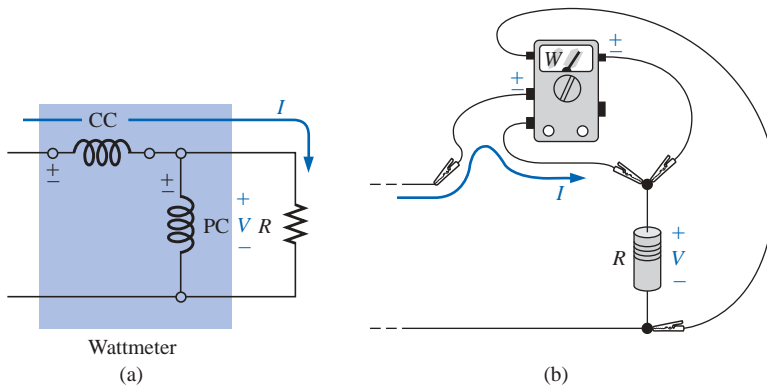
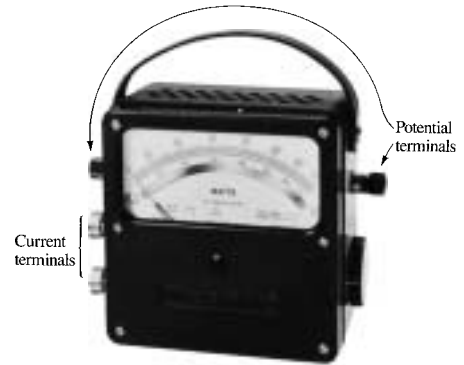

FIG. 4.17
FIG. 4.16
As one might expect, there are instruments that can measure the power delivered by a source and to a dissipative element. One such instrument, the **wattmeter**, appears in Fig. 4.16. Since power is a function of both the current and the voltage levels, four terminals must be connected as shown in Fig. 4.17 to measure the power to the resistor R .
If the current coils (CC) and potential coils (PC) of the wattmeter are connected as shown in Fig. 4.17, there will be an up-scale reading on the wattmeter. A reversal of either coil will result in a below-zero indication. Three voltage terminals may be available on the voltage side to permit a choice of voltage levels. On most wattmeters, the current terminals are physically larger than the voltage terminals to provide safety and to ensure a solid connection.